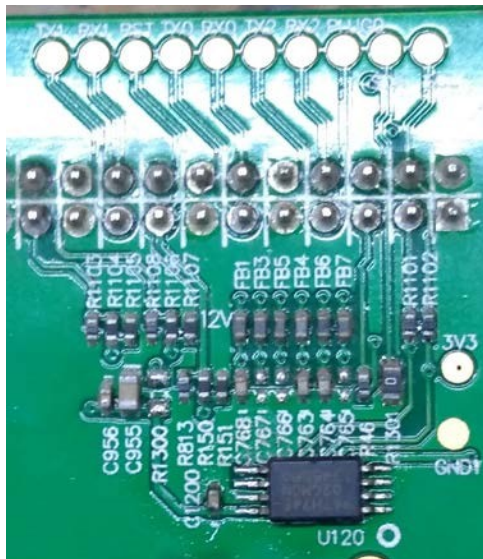

Fig 17. EPROM Locality Map
5. DC-PIC: Composed of PIC133EP16 chip and EPROM chip AT24C02. See Fig 16 and Fig17: